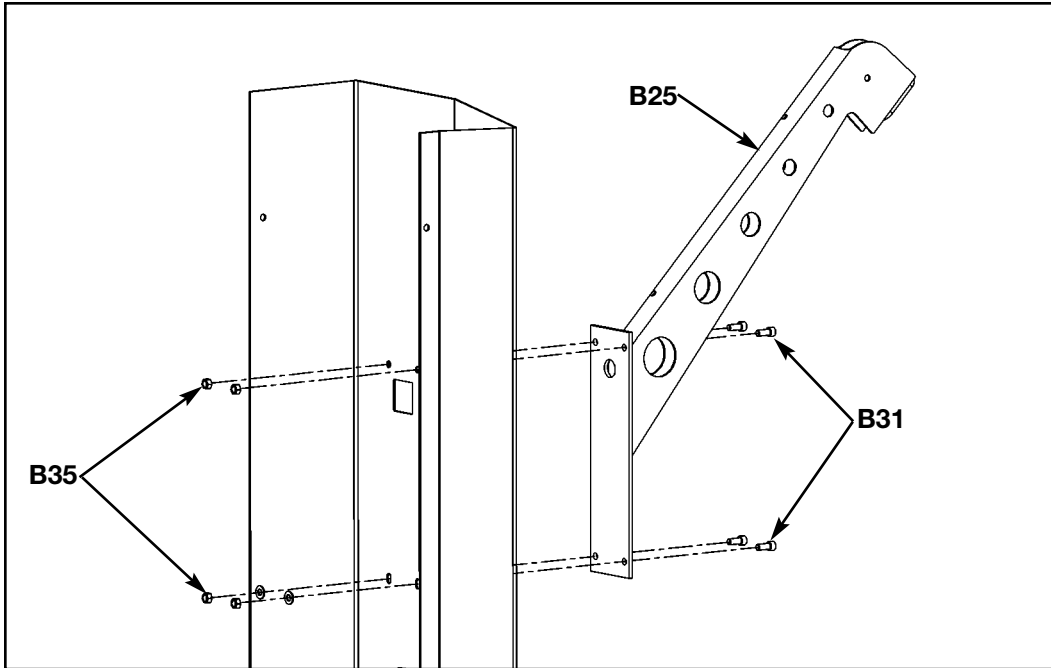

Figure 16
**9. Install upper boom** (see steps 9A - 9D, Figures 16 and 17).